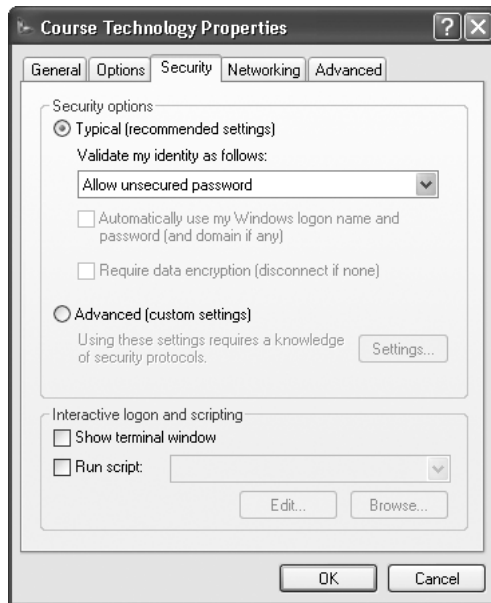

Figure 15-9 Setting Security options
- Check that both the client and the server dialup configurations match, including speed, protocol, and security. See Figure 15-9 for an example of the security settings for a dialup connection. You’ll need to view the other tabs to compare and confirm speed, protocol, and other connection settings.